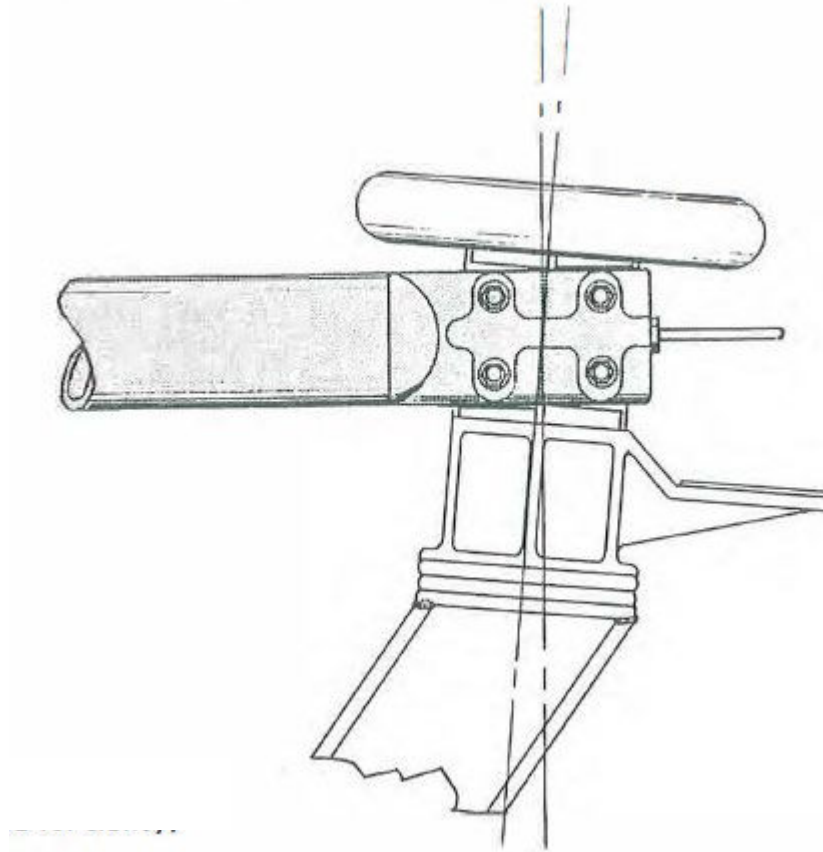

Figure 14: Jaw Mis-Alignment (exaggerated for clarity)
- 2.5. Occasionally, uneven or slightly misaligned insulator caps will make proper contact adjustment impossible to achieve, using jack screws alone. This condition could appear in two places: One, a jaw could be misaligned horizontally, preventing full contact with the complete length of the blade tip, as suggested in **Figure 14**. To correct, place shims